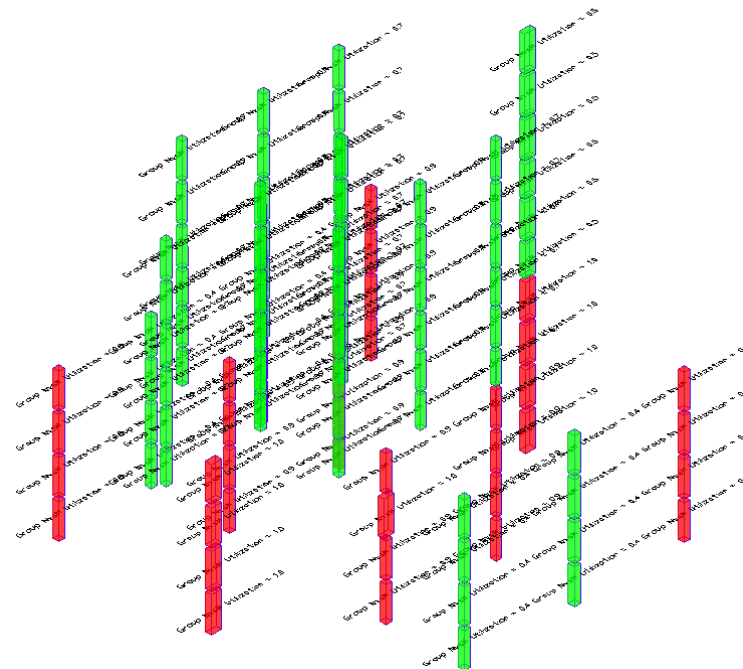
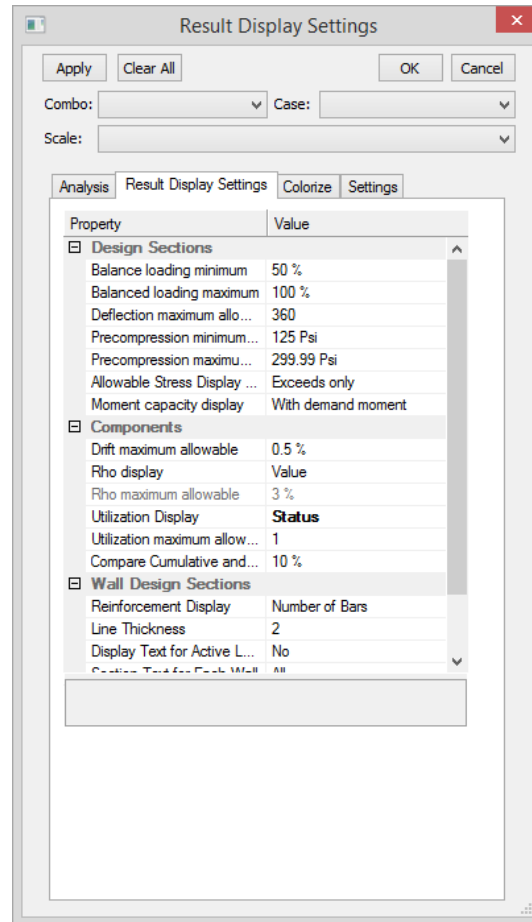

Figure 2-24 Status (Pass/Fail) for Design Group Results with 0.85 Utilization Limit
Figure 2-25 Change Utilization Display in Result Display Settings
- To change the allowable limit for NvsM Utilization display, Select the *Result Display Settings* tab of *Result Display Settings* screen. Change Utilization maximum allowable to 0.85. Click Apply. See **FIGURE 2-24** and **FIGURE 2-25**.